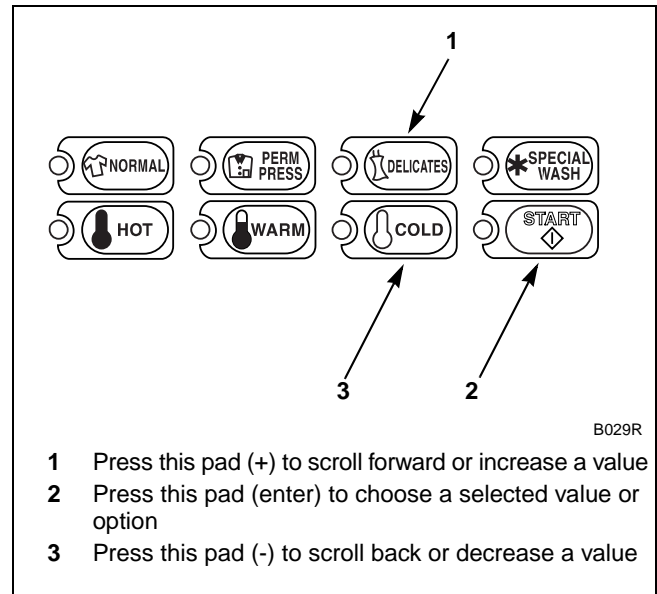

Figure 140
5. Press the DELICATES (+) or the COLD (-) keypad to increase or decrease the current number of minutes displayed in the VFD to the desired number of minutes. Refer to *Figure 140*.
**NOTE: The Normal Spin Extract Time can be set from zero (0) to 15 minutes.**